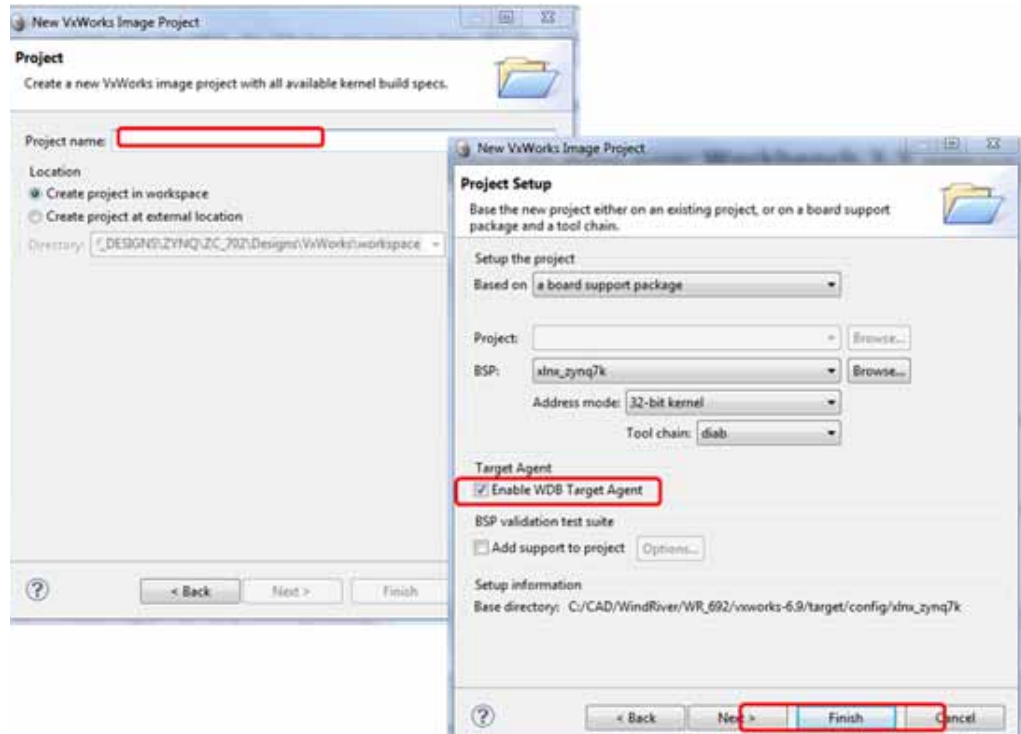

Figure 5: VxWorks Image Project Multipage Wizard
6. Select the **xlnx_zynq7k** BSP used for this project as highlighted in Figure 5.